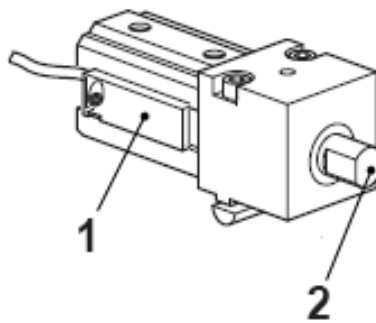

Fig. 28 Magnetic switch of intermediate stop
1. Push the magnetic switch (Fig. 28, 1) into the slot.
2. Position the intermediate stop (Fig. 28, 2) in the working position.
3. Move magnetic switch (Fig. 28, 1) and search for activation threshold (LED).
4. Tighten the magnetic switch (Fig. 28, 1).